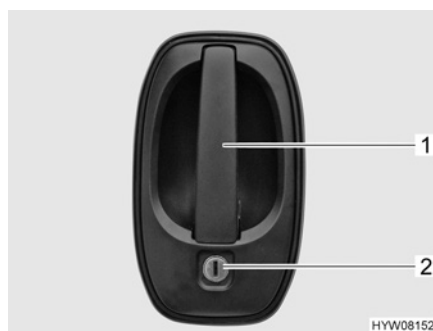

Fig. 16 Door lock (driver's door, conversion door, outside)
- Insert the key into locking cylinder (Fig. 16,2) and turn until the door lock is unlatched.
- Pull on the handle (Fig. 16,1). The door is open.
- Insert the key into locking cylinder (Fig. 16,2) and turn until the door lock is engaged.